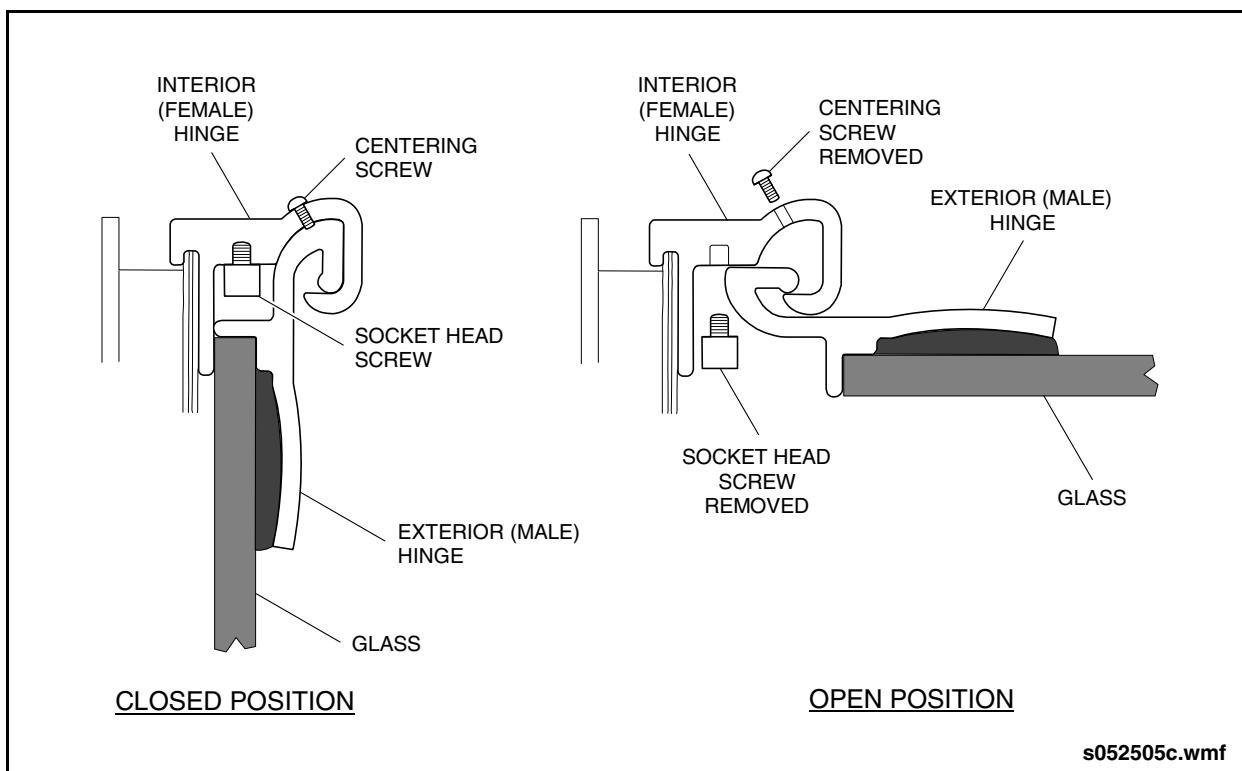

Fig. 14-10: Correct Engagement
2. Engage the two hinge halves correctly. See "Fig. 14-10: Correct Engagement" on page 13.